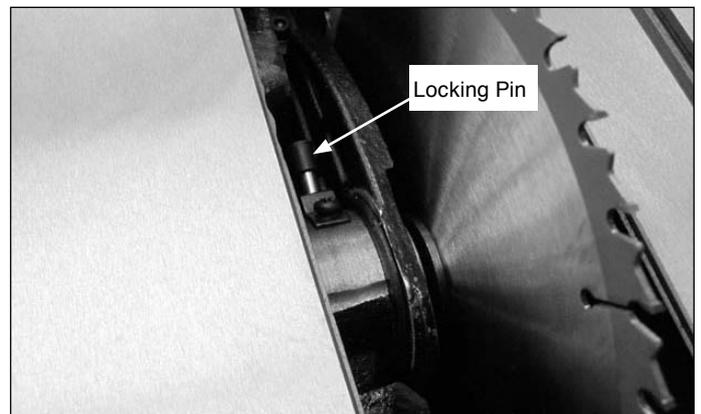

Figure 50 - Locking Pin Engages Arbor to Lock in Position
Refer to Figures 50 and 51.
- Depress locking pin (see Figure 50) and slowly rotate blade toward you until pin engages into arbor. Hold arbor in locked position.